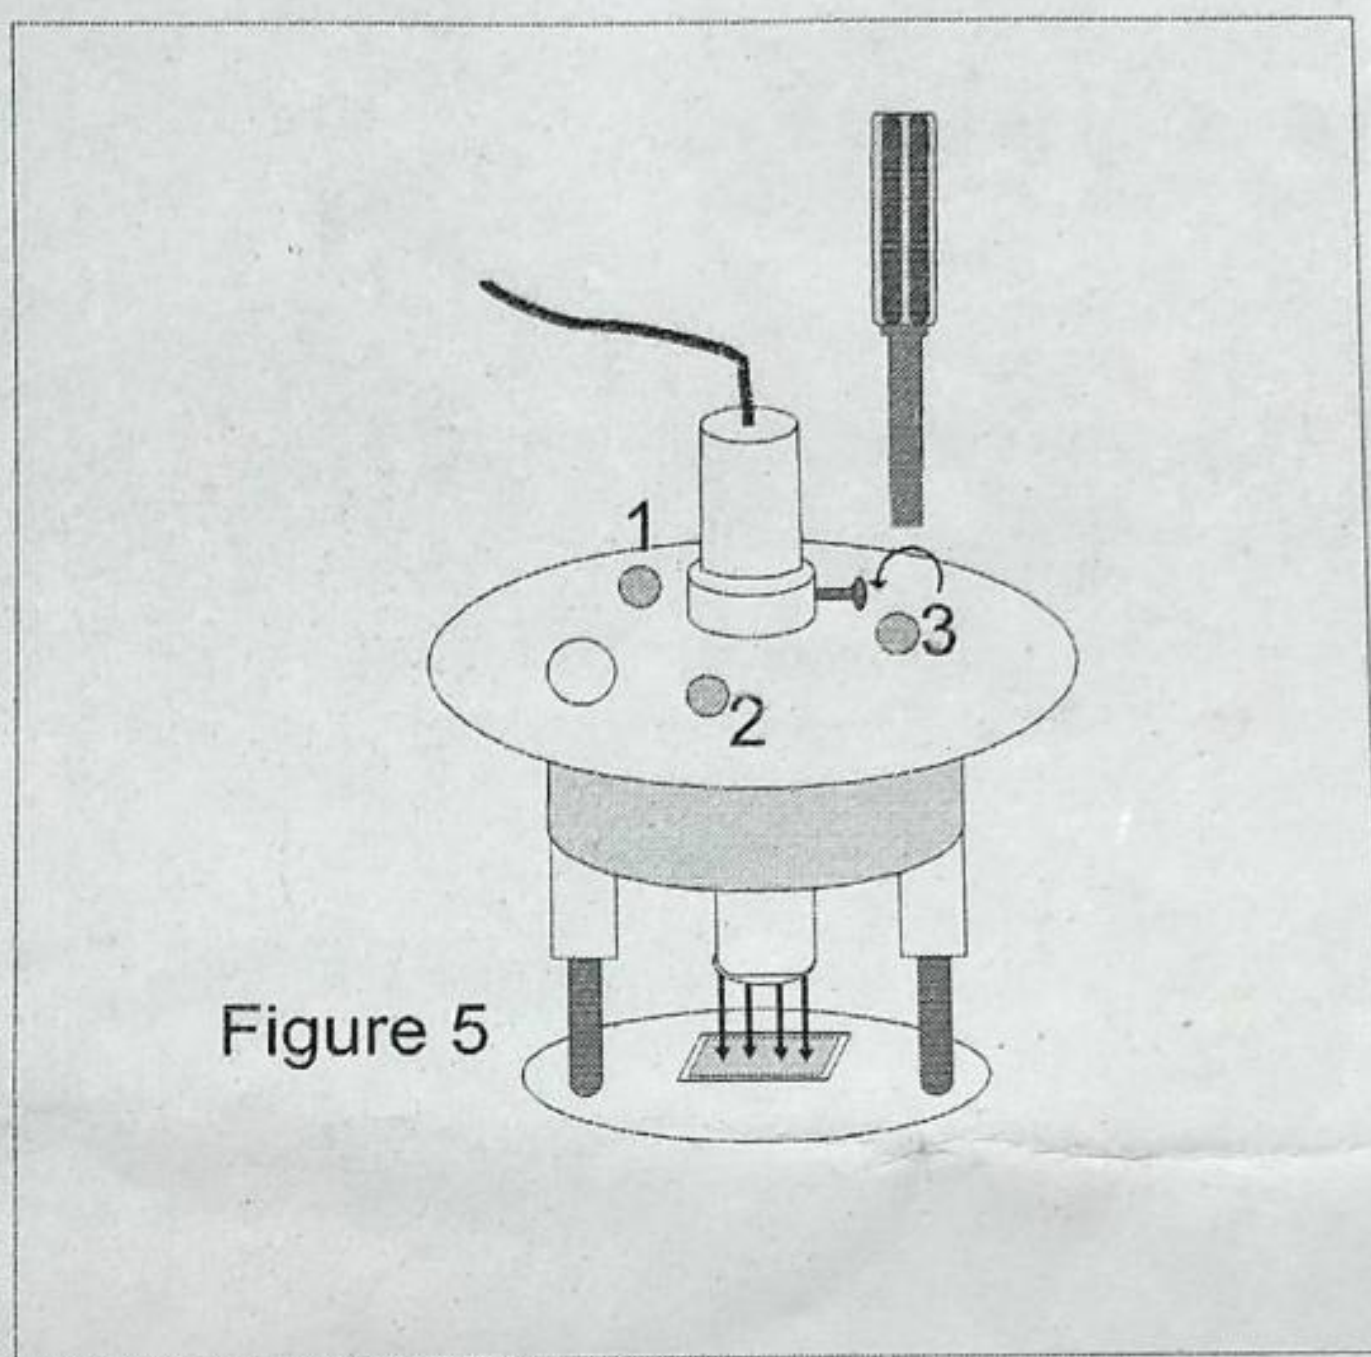

Figure 5
Solution2 : For this keep the oven switch(8)in OFF position and keep the Current knob(2) to maximum(i.e Fully clockwise). Keep the 4-probe arrangement in the oven and using a screw driver adjust the three screws1,2&3 (as shown in figure5) provided on the top plate of the 4-probe arrangement such that the current display shows an over range.